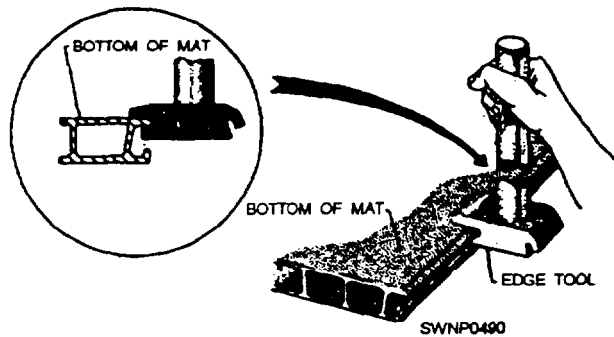
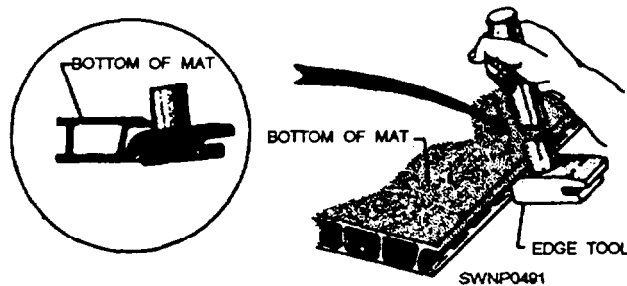
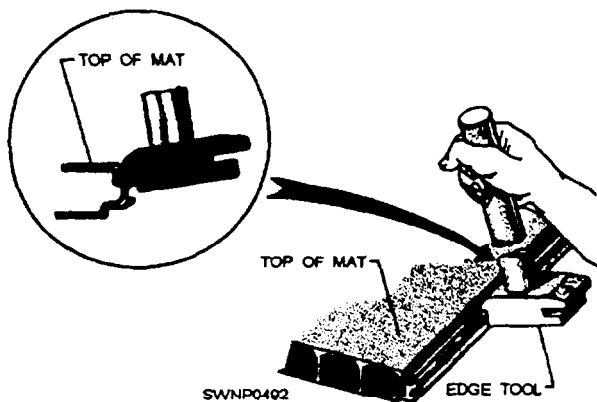

Figure 11-38.—Straightening of lower female edge.
Figure 11-39.—Straightening of upper female edge.
Figure 11-40.—Straightening of male edge.
Figure 11-38 shows the use of the edge tool for the lower female edge of the mat, figure 11-39 shows the use of the edge tool for the upper female edge of the mat, and figure 11-40 shows the use of the edge tool for the male edge of the mat.
2. Orient the mat properly; that is, place the top of the mat faceup, as shown in figure 11-40, and place the bottom of the mat faceup, as shown in figures 11-38 and 11-39, as required to allow the edge tool to be used in an upright position.
3. Engage the tool with the mat edge, as shown in figures 11-38, 11-39, or 11-40, at the beginning of the bent area,